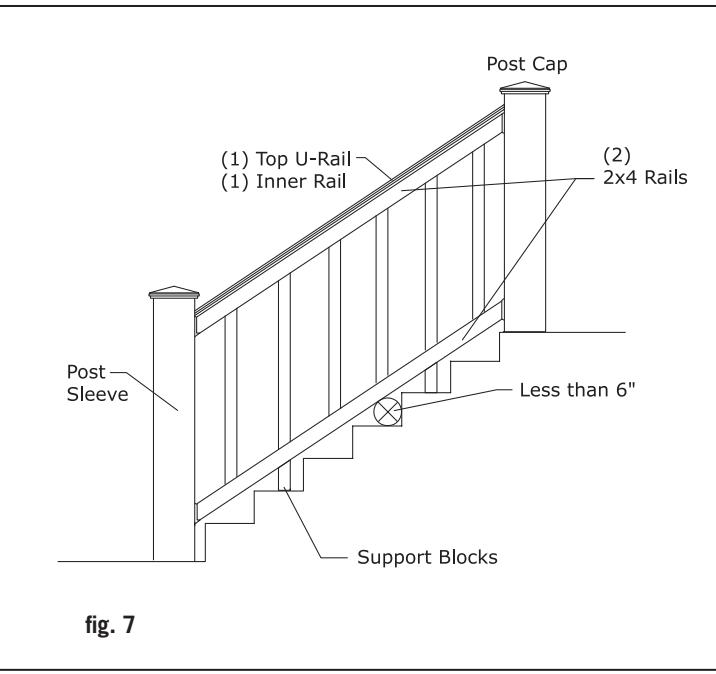

fig. 7
Step 7: A support block is needed every 2' on-center. For a 6' rail section, two composite support blocks are provided. Check building code requirements for maximum spacing on a staircase, typically less than 6". A 6" ball cannot pass through the triangle formed by the bottom rail, tread and riser (fig. 7). Cut support blocks to desired height and angle. Place equal distance from each post. Pre-drill the underside of the lower 2x4 rail and the ends of the support blocks with a 1/8" drill bit. Attach the blocks to the rail with the two dowel screws.